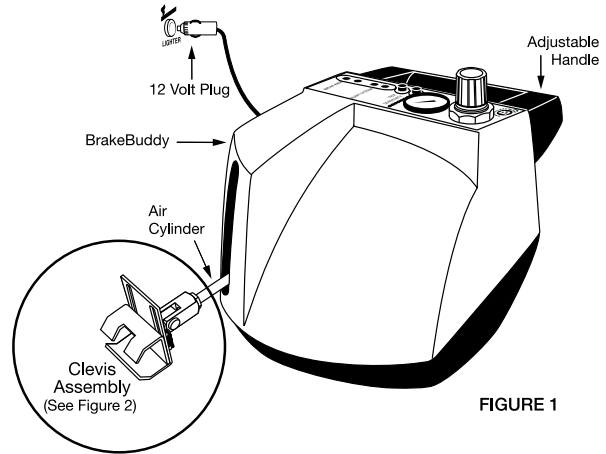

FIGURE 1
1. Remove the *BrakeBuddy* and accessories from the shipping carton. (See parts list and diagram – Figure 1).